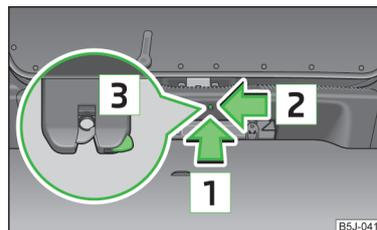

Fig. 37
- Insert a screwdriver or similar tool into the opening in the trim in the direction of the arrow **1** » Fig. 37 as far as the stop.